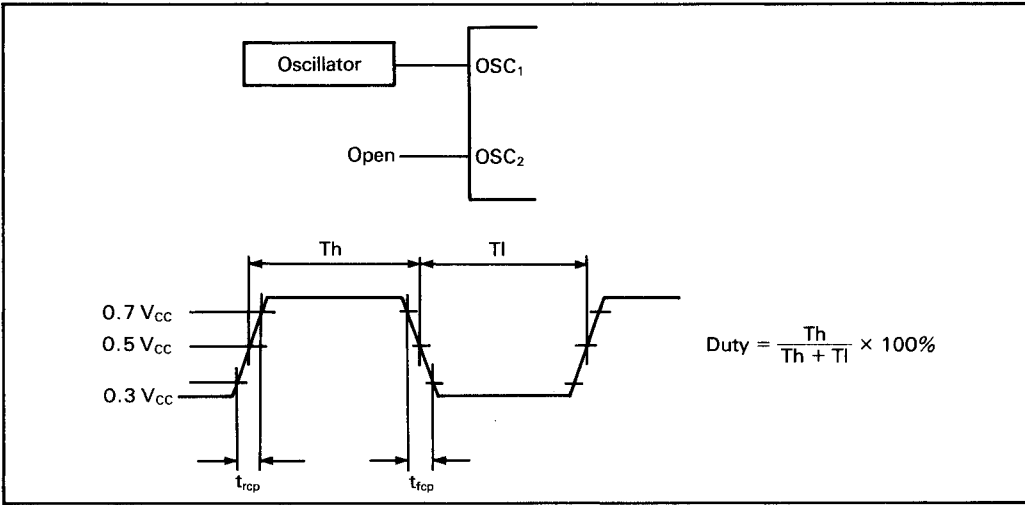

Figure 44. External Clock
- Internal oscillator operation using oscillation resistor Rf (figure 44).